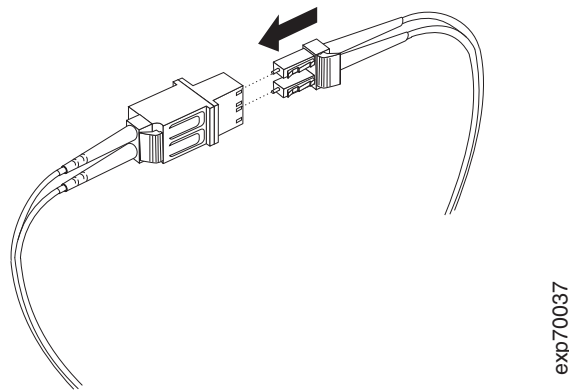

Figure 31. Connecting an LC-LC cable into the LC-SC cable adapter
4. Carefully insert the other end of the LC-LC cable into the LC connector end of the LC-SC cable adapter as shown in Figure 31 on page 41. Push in the